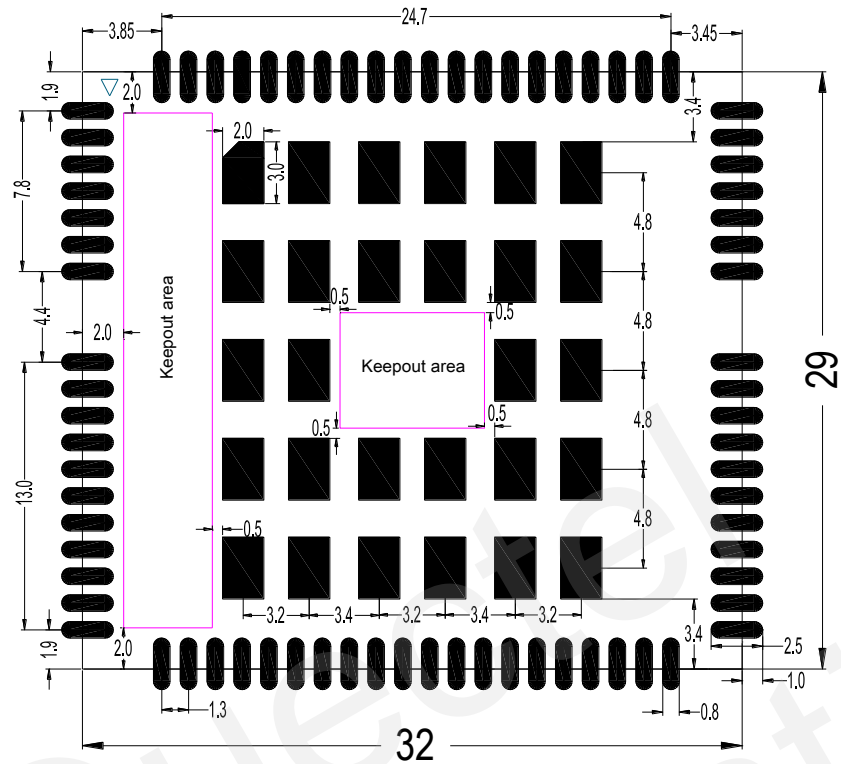

Figure 34: Recommended Footprint (Top View)
3. The red areas are recommended footprint shown in Figure 34.